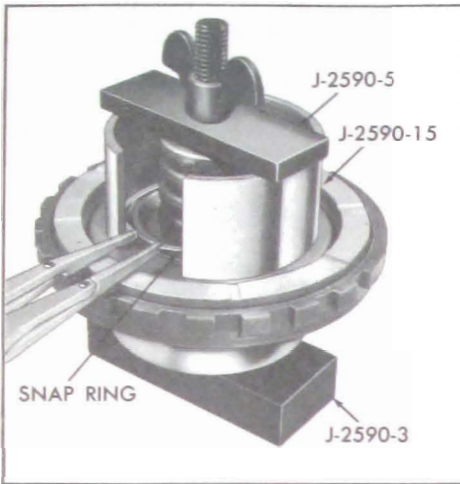

Figure 5-660
2. Using Clutch Compressor J-2590, compress the spring retainer and remove the snap ring. See Figure 5-660.